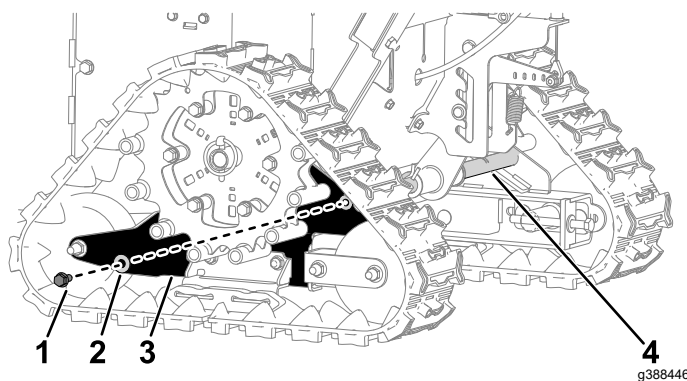

Figure 1
2. From the left side of the machine, remove and discard the screw (5/16 x 3/4 inch) and flat washer (3/8 x 7/8 inch) securing the track support to the pivot bar (Figure 1). Repeat on the right side.